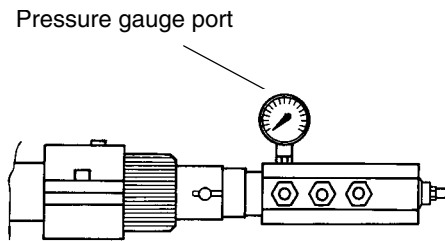

Fig. 23
- 9 the nozzle supply pressure is already factory-set and must not be changed. Only if necessary, adjust the supply pressure as follows (see related paragraph); insert a pressure gauge into the port shown on Fig. 23 and act on the pump adjusting screw **VR** (see Fig. 22 and page 20) as to get the nozzle pressure at 25bar (according to the nozzle model provided- see page 29).